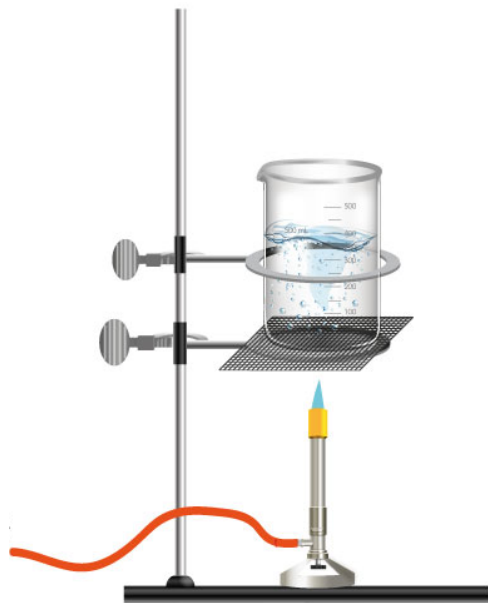

Figure GA.3: Appropriate setup to heat a beaker with a Bunsen burner.
7. Place a wire gauze on the ring portion of a ring clamp and place the beaker containing your dissolved sample on the wire gauze as shown in Figure GA.3. Use the Bunsen burner to heat the solution until it is nearly (but not quite) boiling. Turn the Bunsen burner off before the solution boils. Safety: The beaker should remain on the wire gauze until completely cooled.